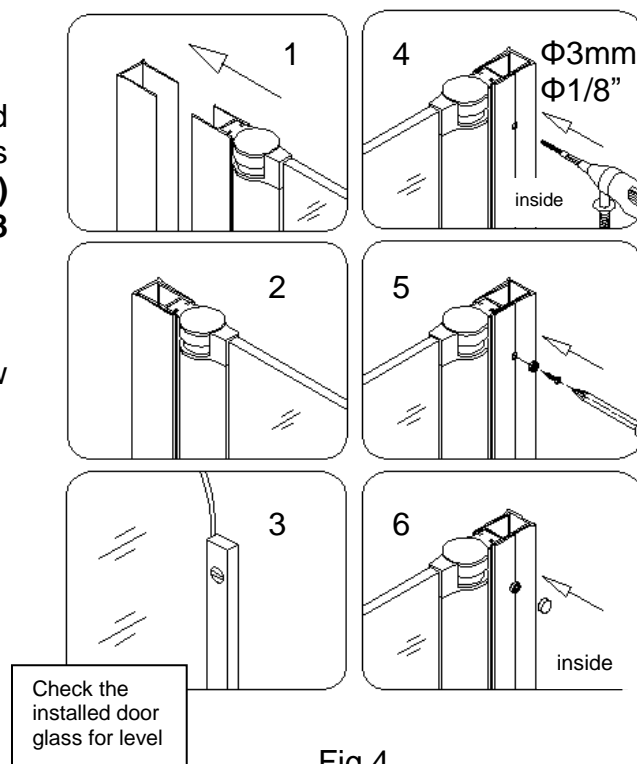

Fig 4
4. Slide the assembled **Glass door with Hinged glass profile (02)** into the groove of the **Wall profile (01)** and level it vertically (Fig 4.3). Make final adjustment (up to 1/2") if required keeping the door glass level. Drill the holes through the first layer of the **Wall profile (01)** and into the **Hinged glass profile** using an **Φ1/8 drill bit**. Secure the **Wall profile** and the **Hinged Glass profile** with the **Round head screws ST4.2x16 (05)** and washers. Cover the screw heads with the **Decorative Covers (06)**. See Fig 4.